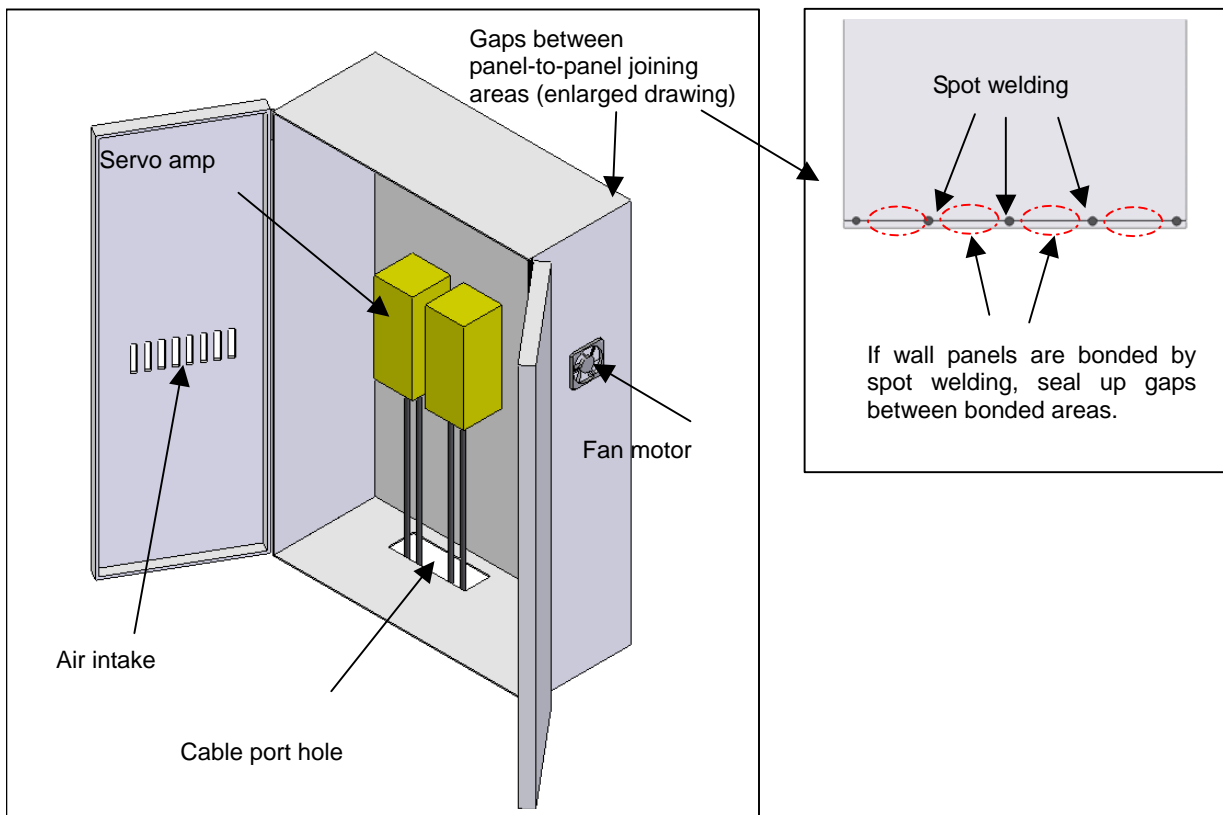

Fig. 1 Example of power magnetics cabinet not sealed well (example of poor
- <1> Keep the power magnetics cabinet free of any hole or gap through which external air can enter the cabinet (Fig. 1). Do not make any hole in a cabinet wall panel; fitting air filters in holes cannot necessarily seal up the cabinet.
- <2> Do not make any hole in the cabinet wall panel to install a fan motor in the hole (Fig. 1). In order to release heat from the cabinet to the outside, use a device (such as a heat exchanger or cooler) having a structure that will not hamper seal-up of the cabinet.
- <4> Keep the cable port free of gaps (Fig. 1).